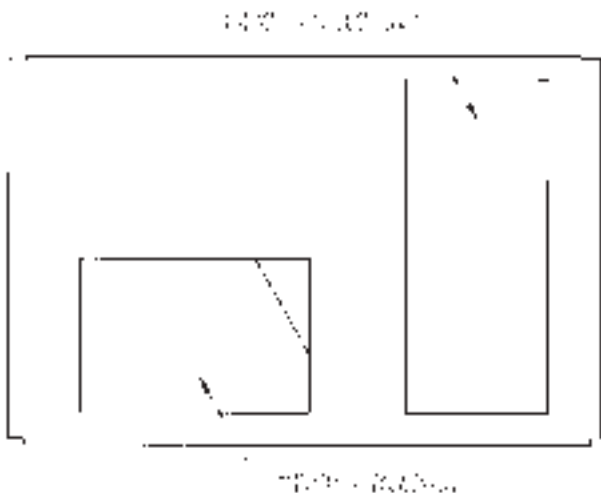

Fig. 12 — Horizontal Conversion Panels
Step 7 — Convert to Horizontal and Connect Ductwork (when required) — Unit is shipped in the vertical duct configuration. Unit without factory-installed economizer or return air smoke detector option may be field-converted to horizontal ducted configuration. To convert to horizontal configuration, remove screws from side duct opening covers and remove covers. Using the same screws, install covers on vertical duct openings with the insulation-side down. Seals around duct openings must be tight. See Fig. 12.